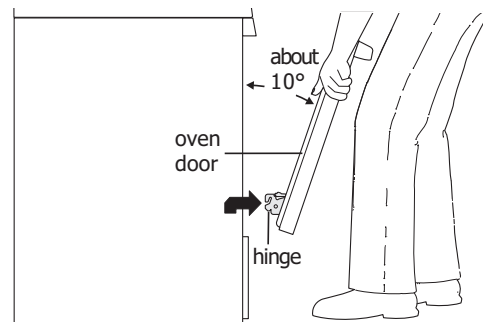
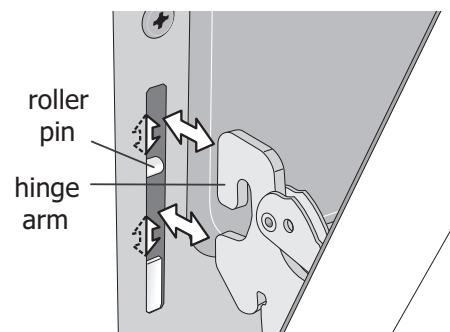

Figure 47: Holding door for removal
Figure 48: Location of hinge arm and roller pin
3. Firmly grasp both sides of oven door along the door sides. Do not use the oven door handle (See Figure 47).
4. Close the door to 10 degrees from the door frame (See Figure 47).
5. Lift the oven door hinge arms over the roller pins located on each side of the oven frame (See Figure 47).
1. Firmly grasp both sides of oven door along the door sides. Do not use the oven door handle (See Figure 47).
2. Holding the oven door at the same angle as the removal position (See Figure 47), seat the hook of the hinge arm over the roller pins located on each side of the oven door frame (See Figure 48). The hook of the hinge arms must be fully seated onto the roller pins.